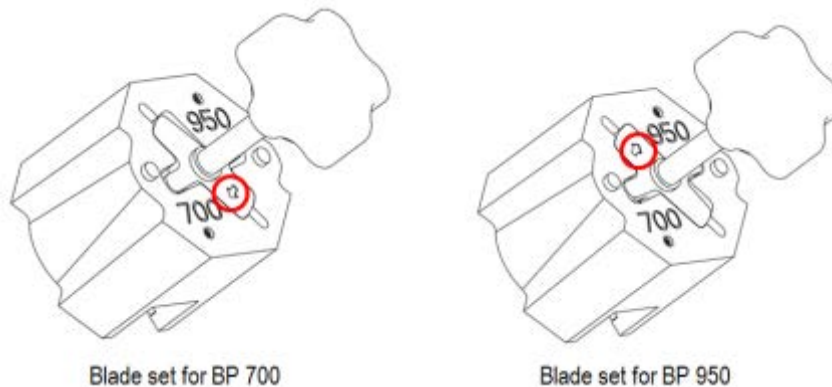

Figure 2.
4. To set or change orientation of the Blade Subassembly, align the arrow on the top of the blade mount with the number indicating the IPP size on the IPP Tool Body. When arrow is pointing to “700” the blade is set for miter cutting the smaller profile, BP700; when pointing to “950”, it is set for the larger BP 950. Refer to Figure 2.